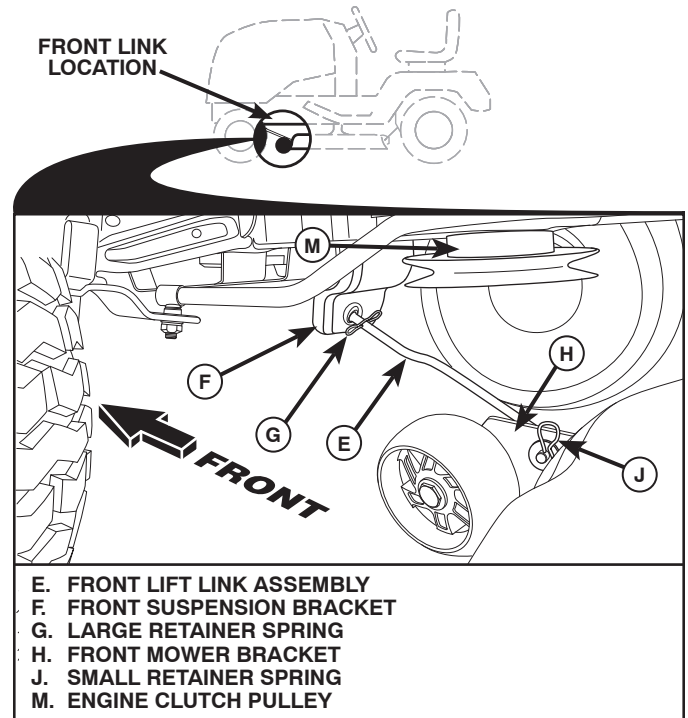

Fig. 33
8 ATTACH FRONT LINK (E) (See Fig. 33)
- From front of tractor, insert rod end of front link (E) through front hole in tractor front suspension bracket (F).
- Move to left side of mower and insert large retainer spring (G) through hole in front link (E) behind front suspension bracket (F).
- Insert other end of link (E) into hole in front mower bracket (H) and secure with washer and small retainer spring (J).